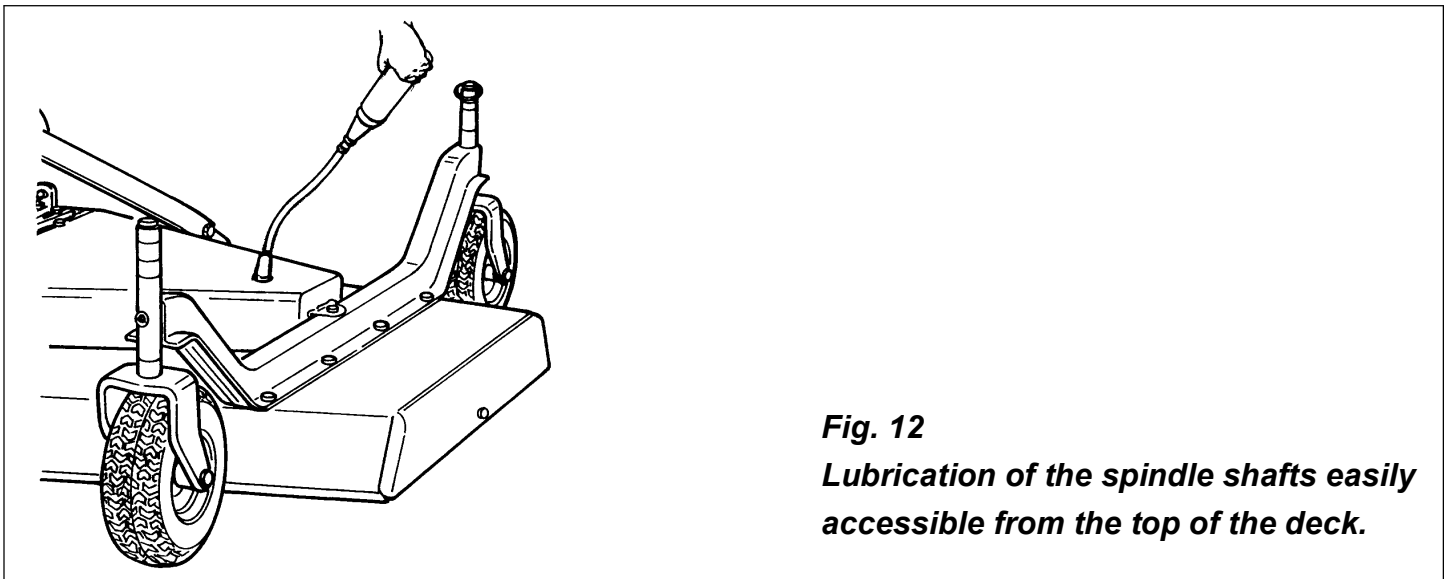

Fig. 12
1. Lubricate the three spindles with two or three shots of multipurpose grease (see fig. 12). The top grease fittings are easily accessible from the top of the deck by simply removing the plastic dust guards.